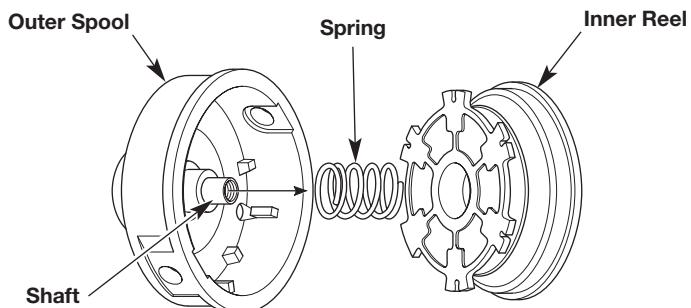

Fig. 16
- Remove the inner reel from the outer spool (Fig. 16).
- Remove the spring from the inner reel (Fig. 16).